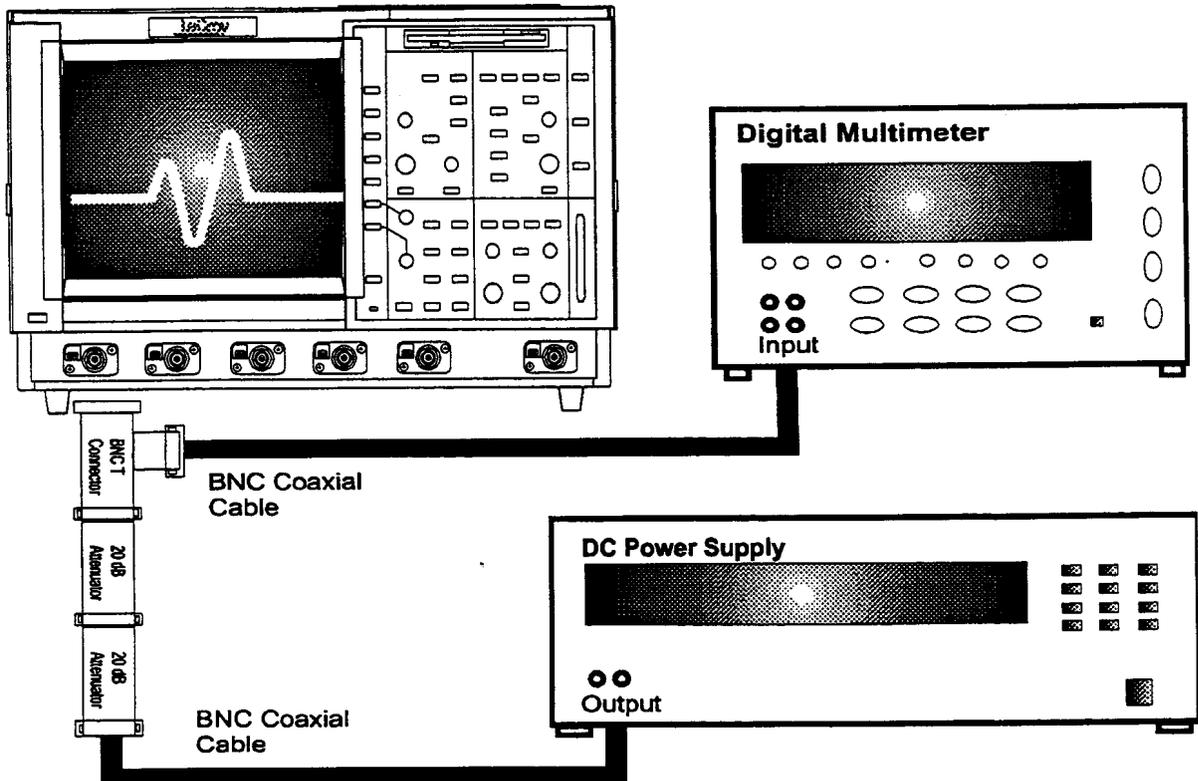

Figure 5-1 : DC 50Ω Accuracy Equipment Setup for 5, 10 and 20 mV/div
- For the low sensitivities : 5 mV, 10 mV and 20 mV/div., connect the test equipment as shown in Figure 5-1.
- Connect the test equipment as shown in either Figure 5-1 or 5-2 or 5-3.